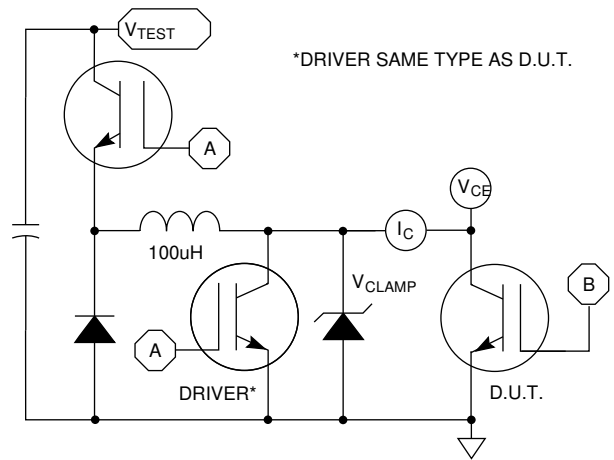

Figure 24, E_{ON1} Test Circuit
① Repetitive Rating: Pulse width limited by maximum junction temperature.
② For Combi devices, I_{ces} includes both IGBT and diode leakages
③ See MIL-STD-750 Method 3471.
④ E_{on1} is the clamped inductive turn-on-energy of the IGBT only, without the effect of a commutating diode reverse recovery current adding to the IGBT turn-on loss. (See Figure 24.)